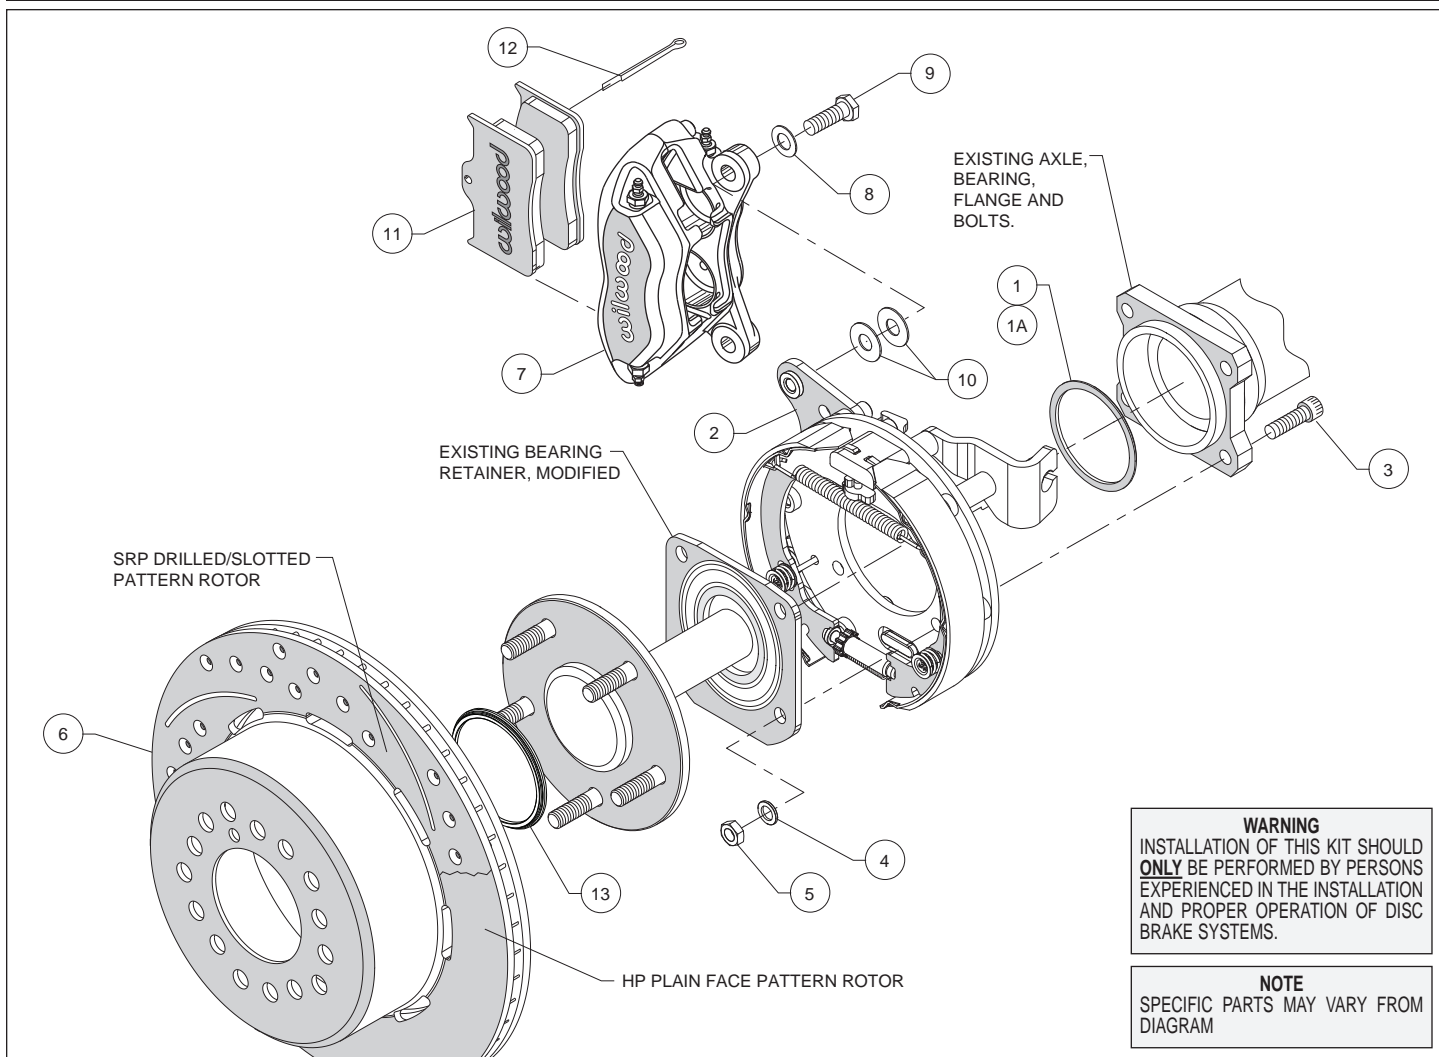

Figure 1. Typical Installation Configuration
**Assembly Instructions** (numbers in parenthesis refer to the parts list, and Figure 1 on the preceding pages): **CAUTION:** All mounting bolts must fully engage clinch nuts. Be sure to check that all bolts are either flush or protruding through flanged side of clinch nut after shimming, Figure 5.
- With the bearing retainer in place, slide the caliper mounting bracket assembly (2) onto the axle as shown in Figure 1 and Photo 1. Install axle shim (1 for model year 1955/56) or (1A for 1957) over axle shaft with bearing chamfer facing toward the axle housing, as shown in Photo 2.
- Slide the axle and parking brake assembly into the axle housing ensuring that the backing plate is flush with the axle housing flange and the bearing retainer is flush with the backing plate. Secure OEM bearing retainer using bolts (3), washers (4) and lock nuts (5), as shown in Figure 1. Hex nuts (5) and washers (4) that retain the caliper mounting bracket assembly (2) should be on the wheel side of the bracket, Figure 1. Torque nuts to 40 ft-lbs.
- Slide the rotor registration adapter (13) onto the axle register on the axle flange with the smaller O.D. facing toward the rotor/hat (6), Photo 3. Align the correct hole pattern in the rotor/hat with the stud pattern on the axle flange and slide into place, Figure 1 and Photo 4. **NOTE:** The rotor/hat must fit flush against the axle flange or excessive rotor run out may result. Install three lug nuts (finger tight) to keep the rotor/hat assembly in place while continuing with the installation. **NOTE:** Some OEM and after market axles come with stud sizes larger than 0.50" diameter. Verify stud size and have a qualified machine shop drill the bolt circle of the hat/rotor to the correct stud size, if necessary.
- NOTE:** Please reference the caution statement at the beginning of the assembly instructions. Mount the caliper (7) onto the caliper mounting bracket (2) using bolts (9) and washers (8), as shown in Figure 1. Initially place two .035" thick shims (10) on each bolt between the caliper and the bracket, Photo 5. Temporarily tighten the mounting bolts and view the rotor (6) through the top opening of the caliper. The rotor should be centered in the caliper, Photo 6. If not, adjust by adding or subtracting shims between the bracket and the caliper. Always use the same amount of shims on each of the two mounting bolts. **NOTE:** The end of each bolt must be flush with or slightly protruding from the head of the clinch nut, as shown in Figure 5. If necessary place spare shims between washer (8) and caliper mounting ear to achieve the proper clinch nut engagement. Once the caliper alignment and clinch nut engagement are correct, remove the bolts one at a time, apply red *Loctite*® 271 to bolt threads, and torque to 40 ft-lb.